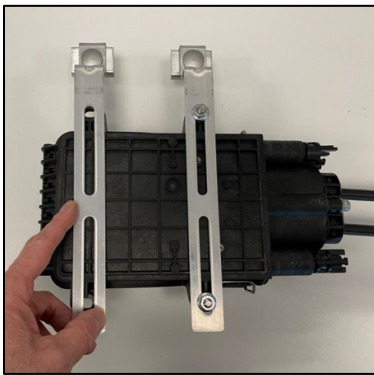

Figure 4
1. Use the included hardware to attach the brackets through the mounting holes on the sides of the FSDC-M (Figure 4).